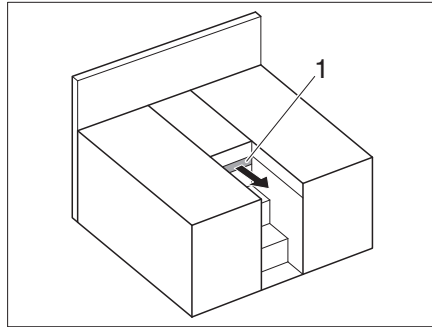

Fig. 172 Single beds
- Pull out the extension (Fig. 172,1).